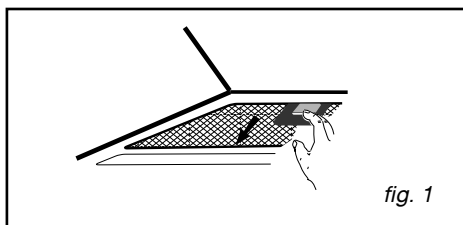

fig. 1
– Push the integrated handle on the filter cartridge (fig.1).
- Remove the lighting port (fig. 1).